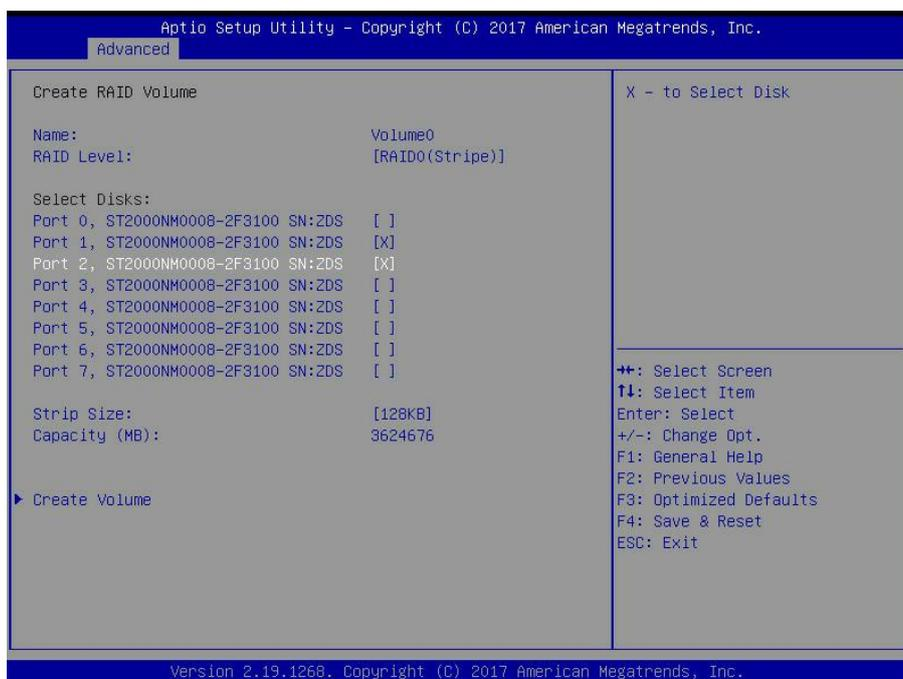

Fig.6.7
d) Select Disks: press the spacebar to select the disks that need to participate in configuring RAID. As shown in Fig. 6.7